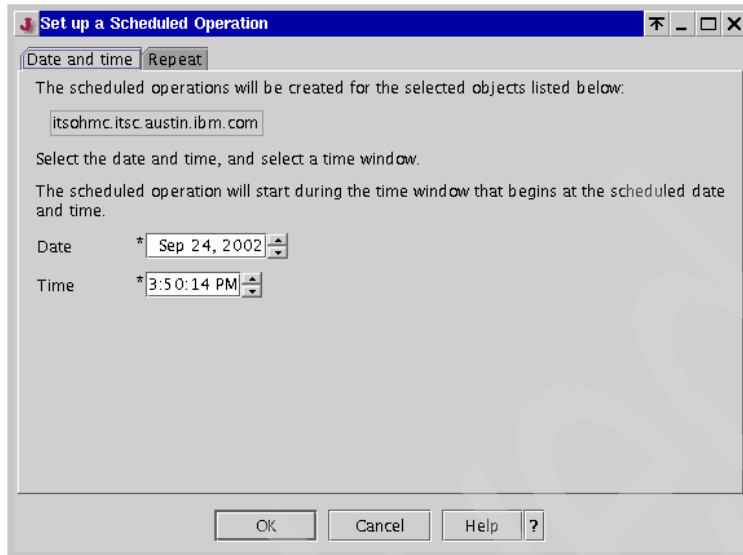

Figure 4-15 Set up a Scheduled Operation: Date and time tab
3. Select **Options** → **New Backup** → **Critical Console Data**. The Set up a Scheduled Operation window opens, as shown in Figure 4-15 on page 94.